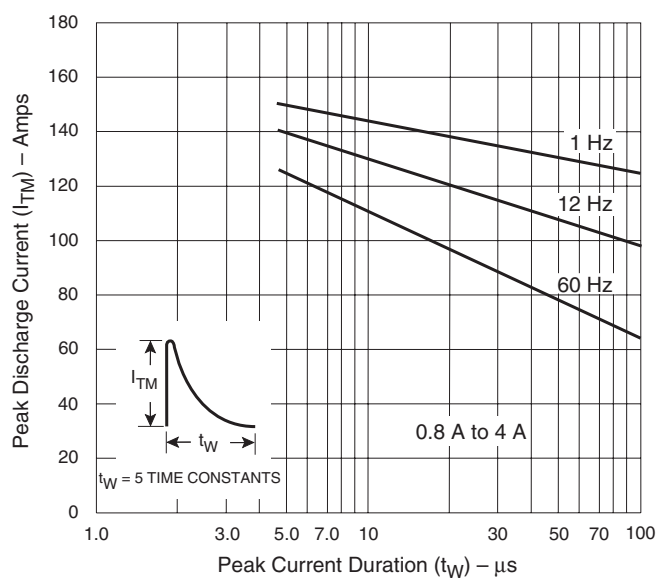
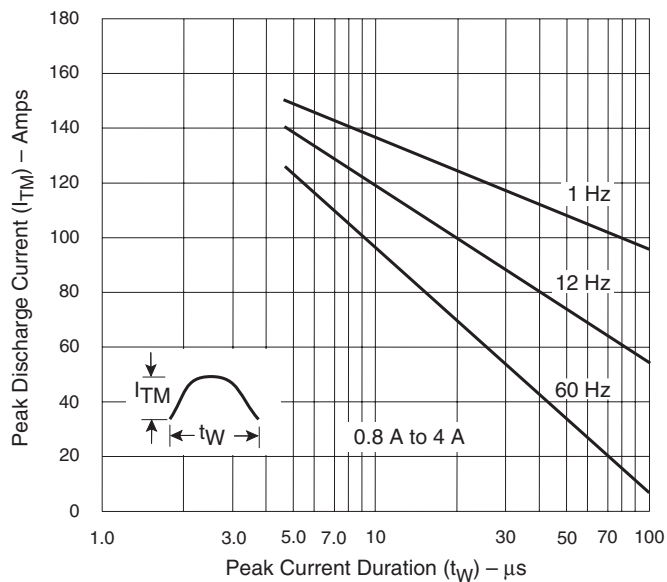

Figure E5.20 Peak Repetitive Capacitor Discharge Current
Figure E5.21 Peak Repetitive Sinusoidal Curve
- (7) 0.8 A to 4 A devices also have a pulse peak forward current on-state rating (repetitive) of 75 A. This rating applies for operation at 60 Hz, 75 °C maximum tab (or anode) lead temperature, switching from 80 V peak, sinusoidal current pulse width of 10  $\mu$ s minimum, 15  $\mu$ s maximum. See Figure E5.20 and Figure E5.21.